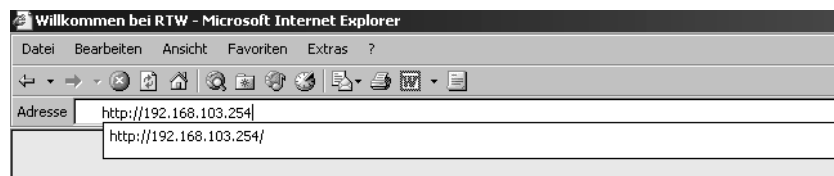

Fig. 8-1: Entering the IP-Adress
1. Start your internet browser and enter the IP address in the address field (e. g.: <http://192.168.103.254>, see Fig. 8-1) followed by the hit of the return (Enter) key.